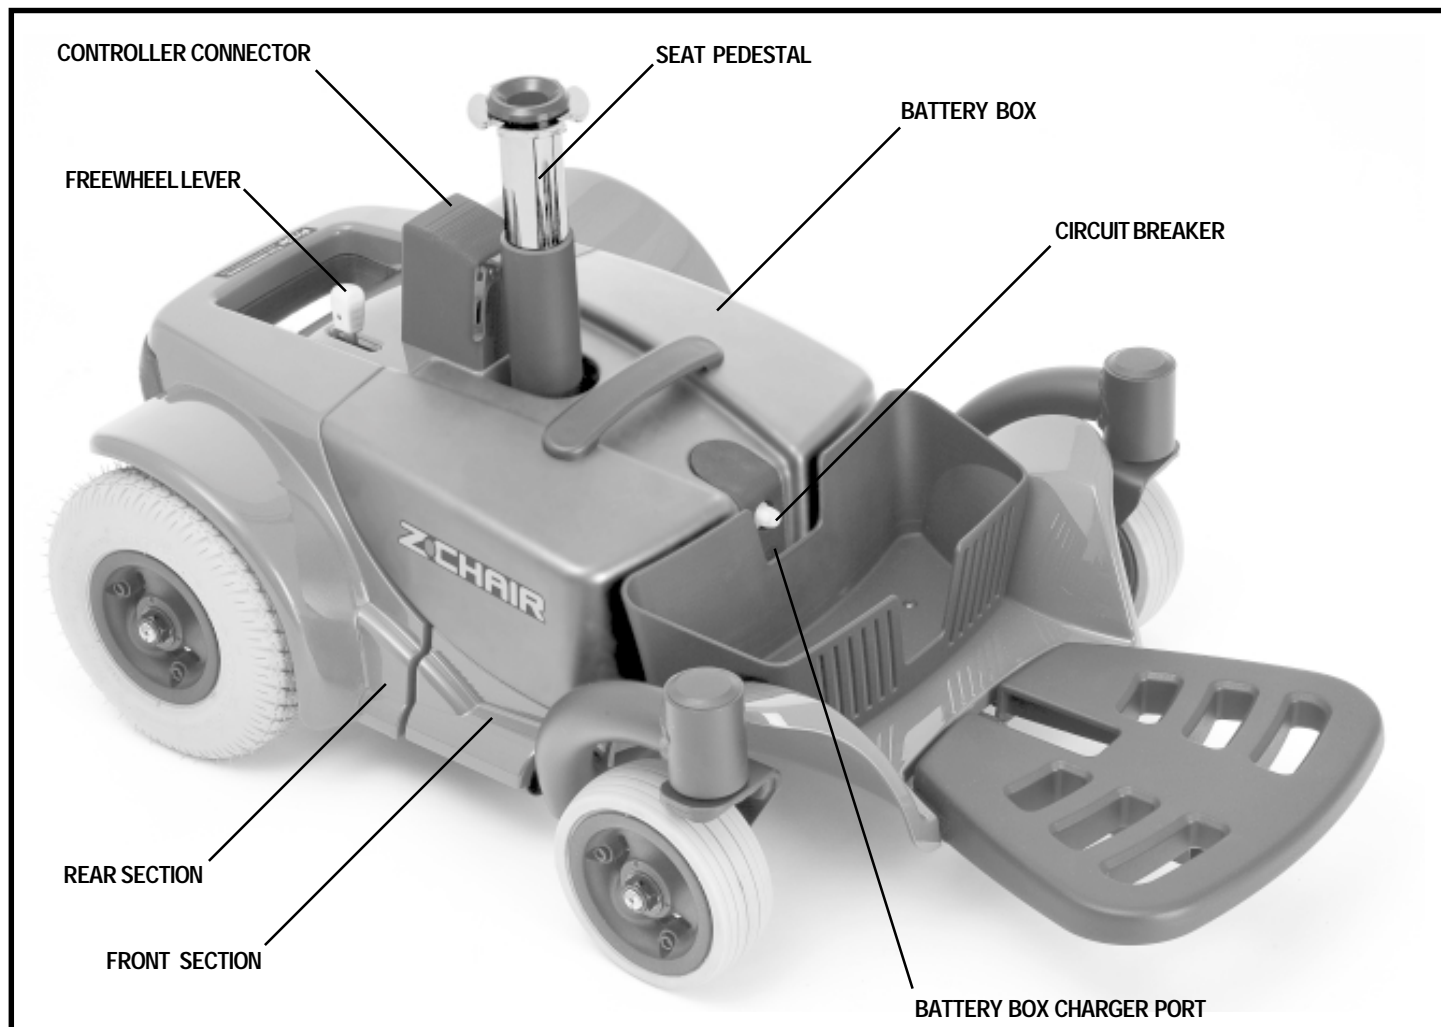

Figure 6. The Z-Chair Power Base
The electrical components are located on the power base. The main circuit breaker is located on the front of the battery box. The controller connector is located on the back of the power base. See figure 6.
4. Plug the controller connector into the power base. See figure 6.
7. Install the seat and plug the controller connector into the power base. See figure 6.